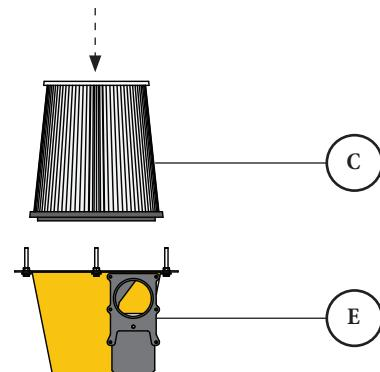

FIG. 15
15 Place the Filter (C) on top of the Cyclone (E) with the open side facing down [FIG. 15].